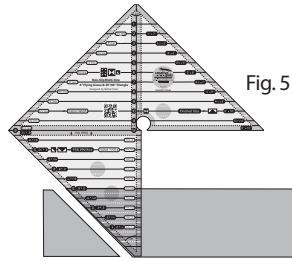

Fig. 5
7. Rotate the ruler 180°. Line up the diagonal side of the triangle with the last cut edge of the fabric strip. Rotary cut along the ruler edge towards the circular cutout area (Fig.5). Repeat this process until you reach the end of the strip.